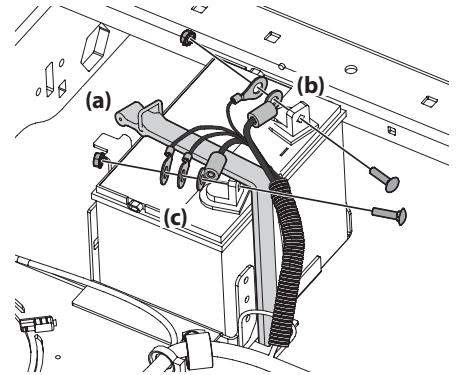

Figure 38
2. Remove the bolt and sems nut securing the negative cable grouping (b) to the negative battery post (marked NEG (-)). Move the cable grouping away from the negative battery post. See Figure 38.
3. Remove the bolt and sems nut securing the positive cable grouping (c) to the positive battery post (marked POS (+)). See Figure 38.
4. Unhook the strap (a) holding the battery in place. See Figure 38.
NOTE: Wiring harness should lay on top of battery hold down strap, otherwise damage to the wiring harness may result. See Figure 38.